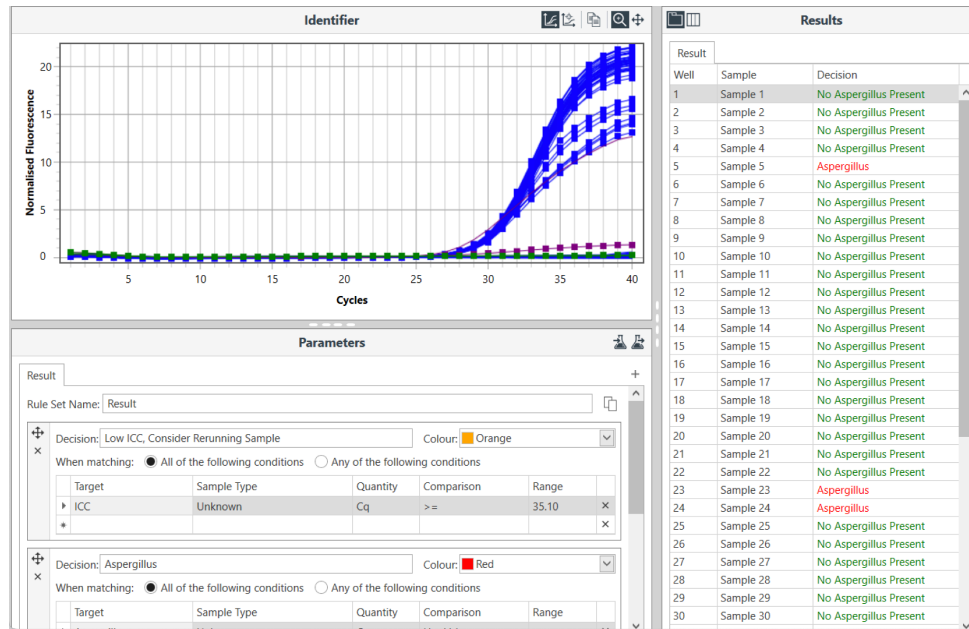

Figure 4. Bio Molecular Systems Mic: PathoSEEK 2-Color Aspergillus Multiplex Detection Assay v2 Data Analysis:
- To review an automatic report, click the “+” sign next to the “Identifier” tab then select the relevant “Complete Assay”. This feature will call the samples tested as detect, non-detect, or inconclusive based on the qPCR data. These results will be displayed on the right side of the screen, see Figure 4